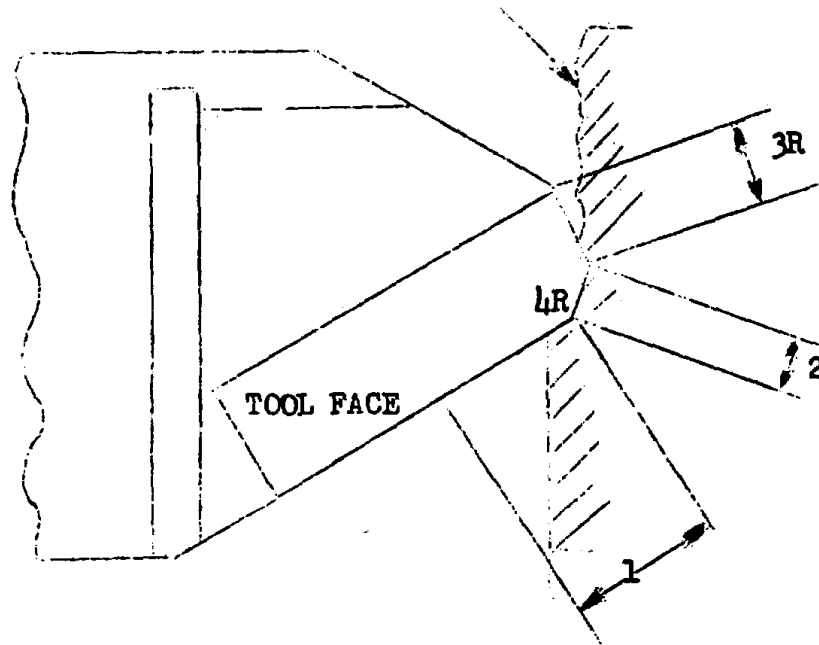
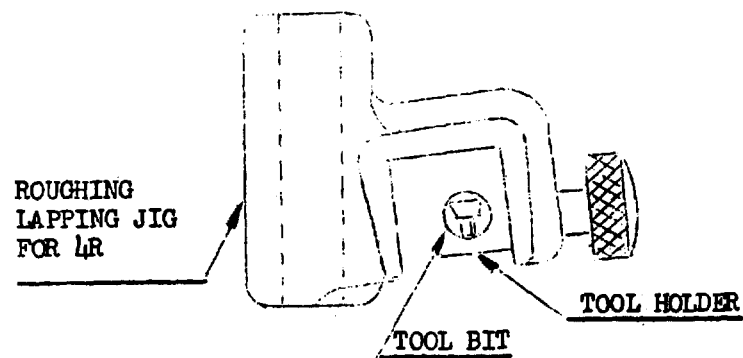
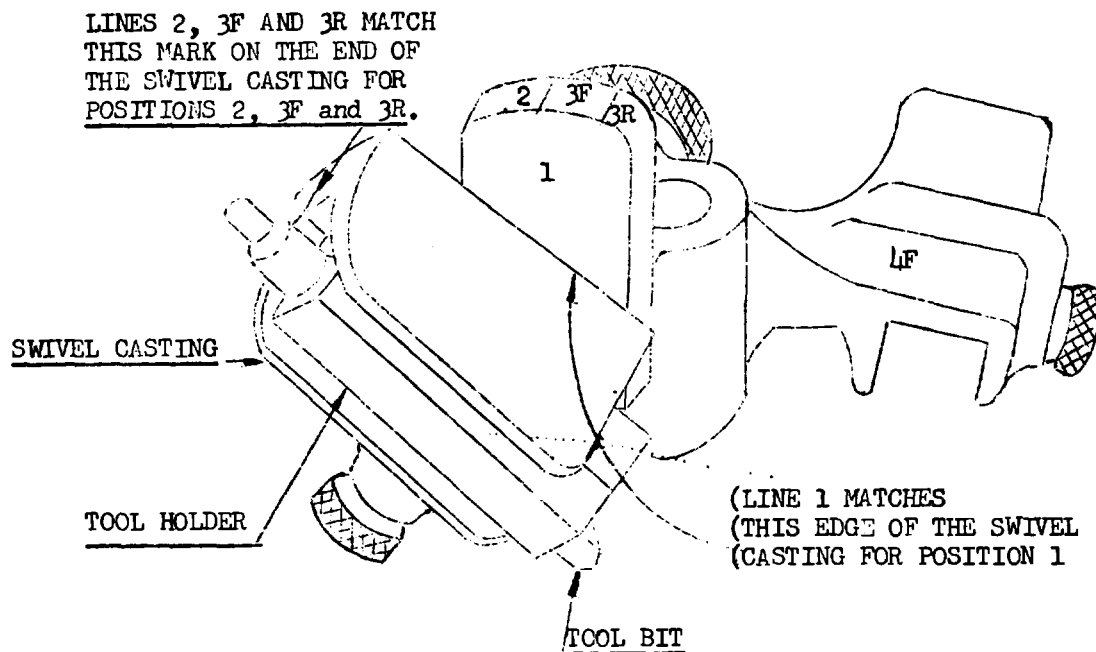

FIG. 4 (ROUGH BORING TOOL BIT) IN CUTTING POSITION
FIG. 5 LAPPING JIG FOR LAPPING ROUGH BORING TOOL BIT IN POSITION 4R
FIGURE 6 SWIVEL HEAD LAPPING JIG SHOWING THE DIFFERENT POSITIONS FOR LAPPING THE TOOL
On the roughing tool (Fig. 4) a part of Portion 1, and all of Portion 2 remove the metal in boring and are, therefore, the parts of the tool which wear and must be reconditioned. The lapping operations will be as follows:
1. The first operation is to lap the tool face (Fig. 4) by using the lapping jig shown in Fig. 5. Lap only until you have removed all built-up material from the face of the tool.
2. Then place the tool holder in the Swivel Head Lapping Jig as shown in Fig. 6 and set the swivel casting which holds the tool to position 1 as illustrated. Lap in this position until portion 1 (Fig. 4) is smooth.
Shift swivel casting to position 2 (Fig. 6) and lap portion 2 (Fig. 4) until portion 2 is in good condition.
Shift to position 3R (Fig. 6) and lap portion 3R (Fig. 4) until Portion 2 has the proper width. For the roughing tool this width could be eight thousandths for the average size bore.
1. The first operation is to lap the tool face 4F (Fig. 7) with the tool in position 4F (See Fig. 6) of the swivel head lapping jig. Lap only until you have removed all built-up material from the face of the tool.
2. Then place the tool holder in the swivel head lapping jig as shown in Figure 6, and set the swivel casting which holds the tool to position 1 as illustrated. Lap in this position until portion 1 (Fig. 7) is smooth.
"Shift to position 3F (Figure 6) and lap portion 3F (figure 7, Page 8) until the portion 2 has the proper width. For the one pass boring tool this width may be .010 to .015 for the average size bore."